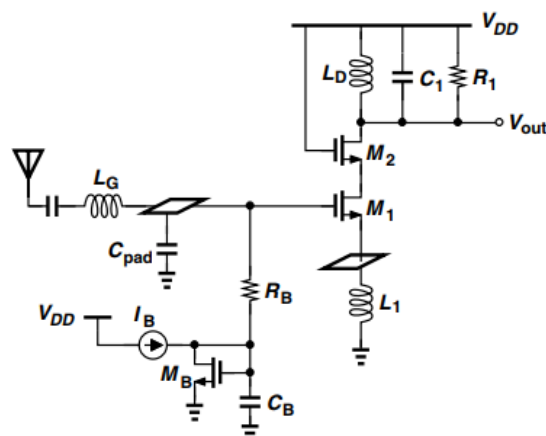

Figure 2-Inductively-Degenerated CS cascode LNA with bias circuit.
4. Design biasing circuit by specifying value of I_B , R_B and size of M_B (Figure 2).